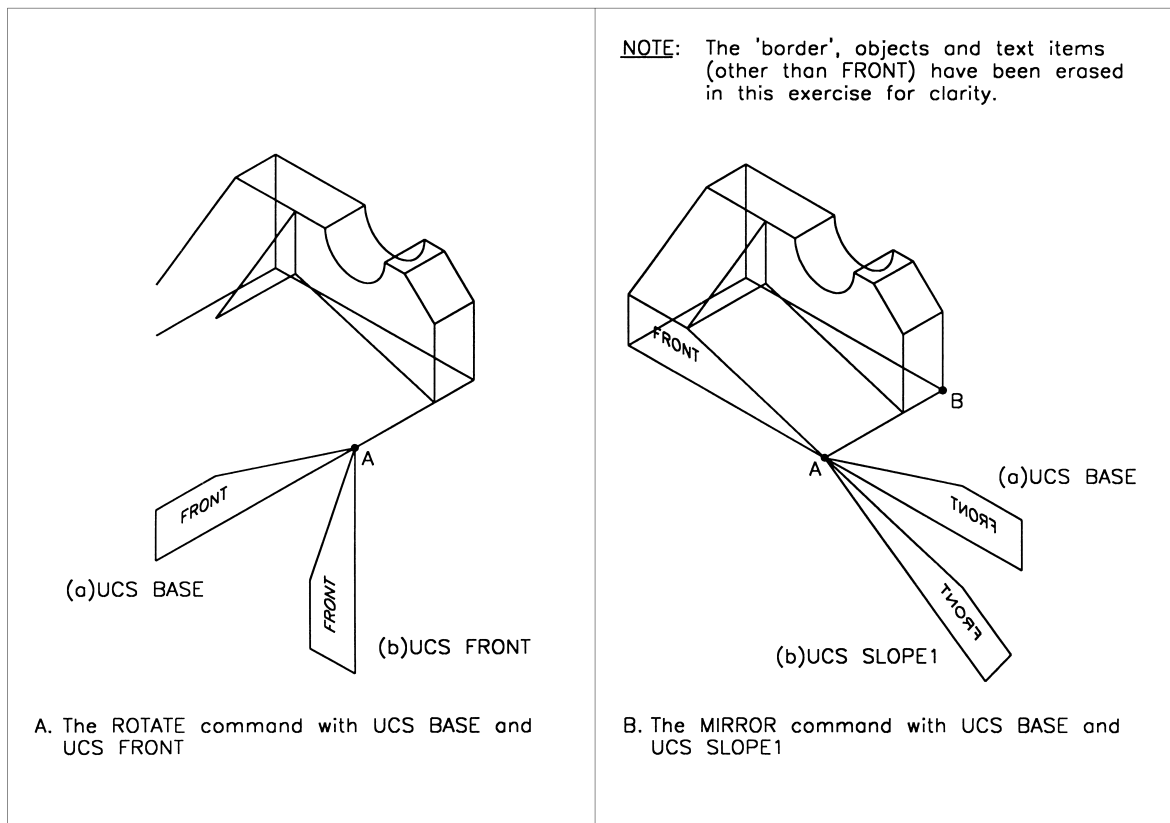

Figure 6.2 The ROTATE and MIRROR commands with 3DWMF.
- 3 The selected objects will be rotated as Fig. 6.2.A(a)
- 5 Restore UCS FRONT and rotate the same objects with the same entries as step 2. This will give Fig. 6.2.A(b)
- The selected objects will be mirrored about the line AB as Fig. 6.2.B(a)
- Restore UCS SLOPE1 and repeat the mirror command with the same objects and same entries as step 1. This will give Fig. 6.2.B(b)